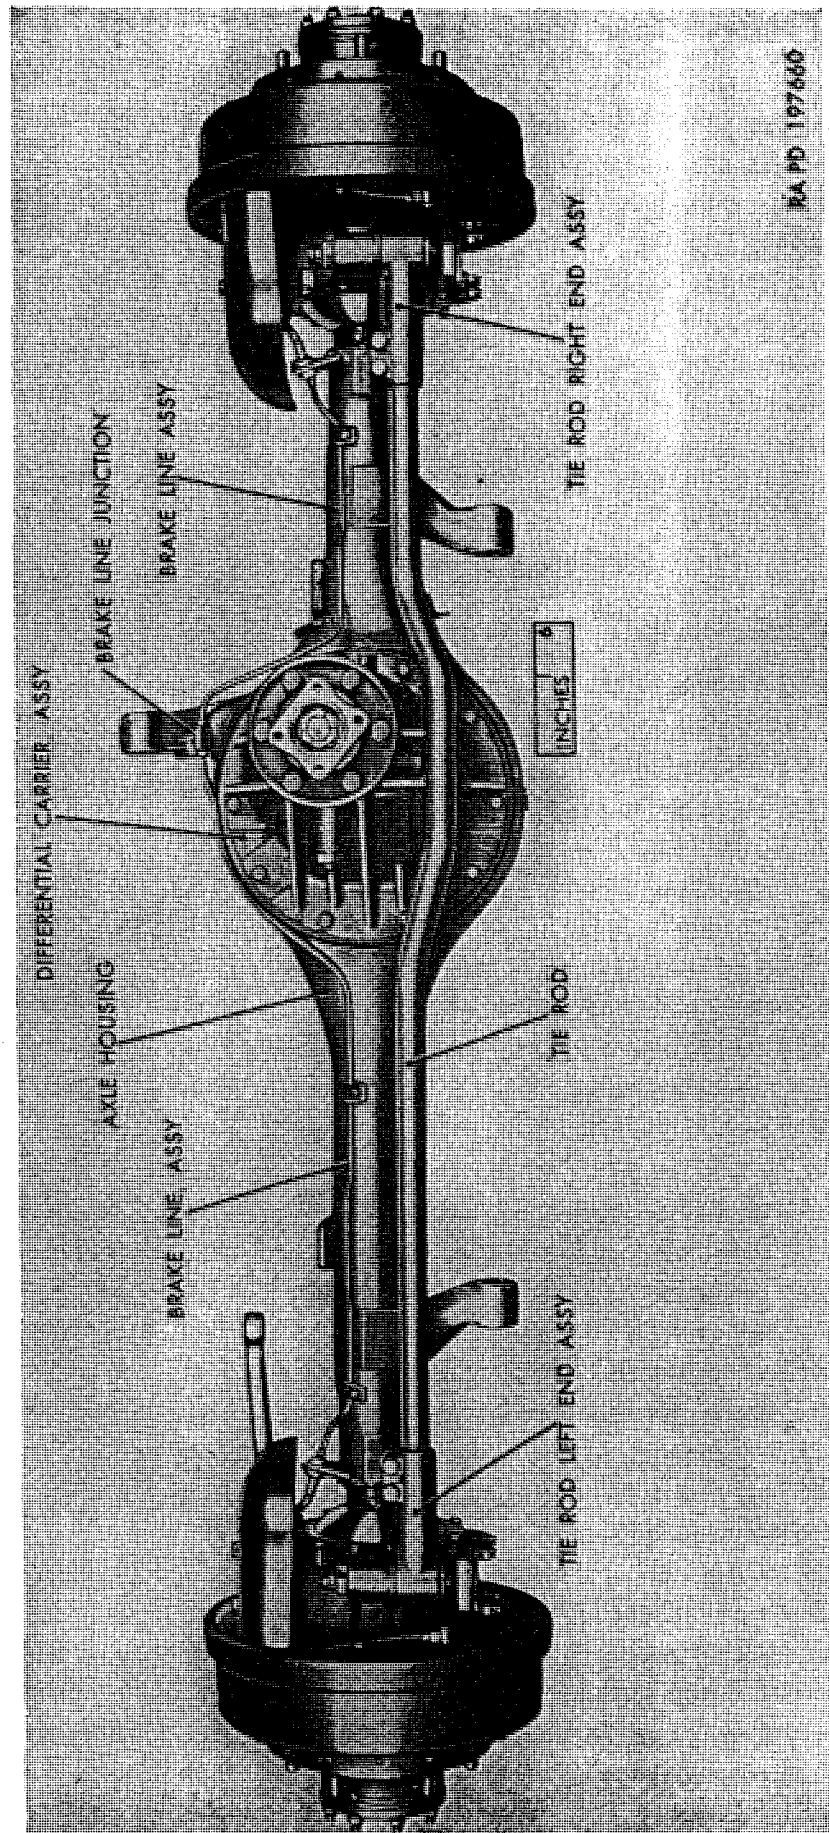

Figure 224. Front axle assembly removed.
- (1) *General.* Front axle assembly (fig. 224) is a hypoid, single-reduction-type axle consisting of a housing, differential and carrier assembly, axle shaft and universal joint assemblies, and steering knuckle support assemblies. Power is transmitted from transfer to drive pinion through a tubular propeller shaft. Power is transmitted from drive pinion to drive gear and differential assembly, then to the wheels through axle shaft and universal joint assemblies. Action of universal joints permits delivery of power to the wheels when they are turned from straightahead position. Front axle is automatically engaged and disengaged by action of a jaw-type clutch located in transfer unit. Front axle is disengaged, except when tractive effort is required.
- (2) *Axle housing.* The axle housing is of the conventional one-piece banjo-type with carrier assembly and cover openings near center of housing. The spherical shaped housing outer ends, torque rod brackets, spring seats, and steering knuckle stops are welded to the axle housing. Oil seals are used at outer ends of housing to prevent lubricant loss. External surface of housing outer ends are machined and polished to provide smooth surface for housing outer end oil and dust seals.
- (3) *Axle shaft and universal joint assemblies.* The axle shafts are full-floating-type with constant-velocity universal joints at steering knuckles. Each assembly consists of inner and outer shafts with integral yokes which form a universal joint around five steel balls. Outer shafts are the same for right and left sides and are splined at outer ends to engage drive